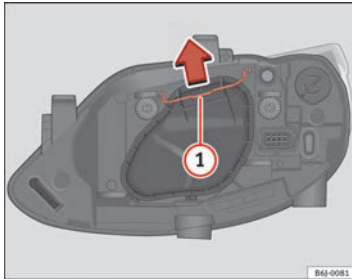

Fig. 153 Dipped beam/
- Move the loop ⇒ Fig. 153 ① in the direction of the arrow and remove the cover.